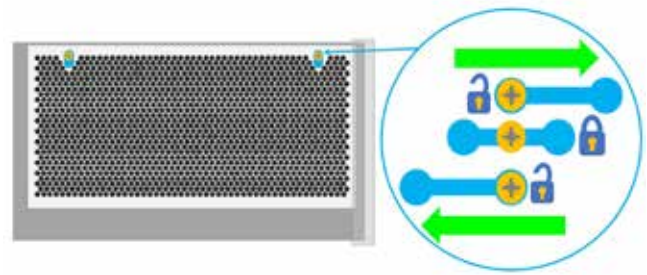

Figure 10 Dog bone screw fixing slot
3. The first cover can then be pushed to the right to release it from the screw slot, (see figure 10) then pull forward and lift upwards to be removed. For additional covers fitted on the 1500 or 2000 units loosen the fixing screws and remove as with the previous covers.